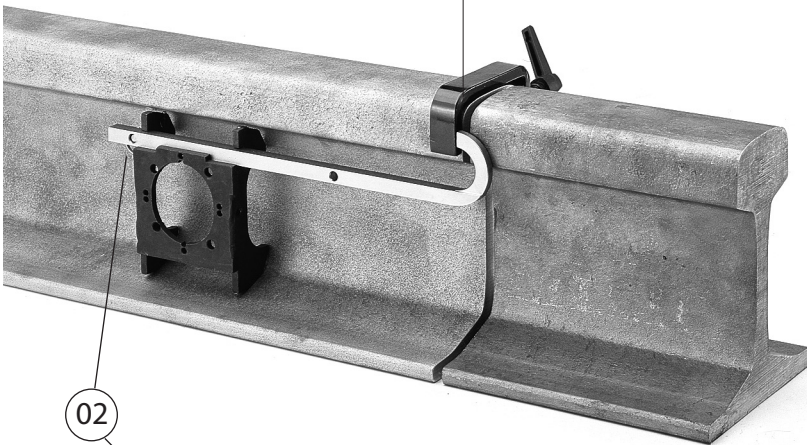

FIG.15 – ASSEMBLY OF THE MRF CLAMP
- 10.2.2) Fit the MRF clamp on the head of the rail, keeping it in contact with the rail head at the reference point of the drilling centres. Lock it in position with the lever. The lever is provided with a return pushbutton for moving in any direction after locking (See Fig. 15).